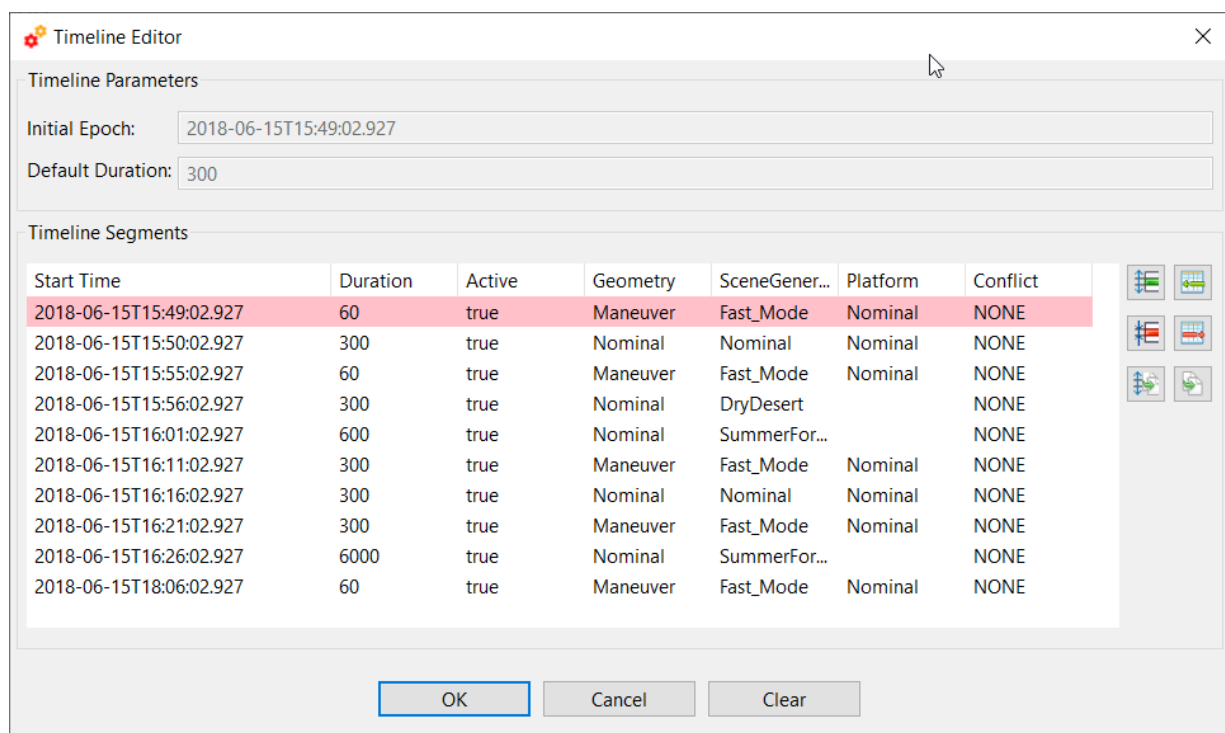

Figure 4-121: Missing modes for a module
- If the global configuration file for the simulation, or the local configuration file of any active module in the simulation is missing, the execution will not proceed, and a dialog will be displayed listing the missing files as shown in Figure 4-121.